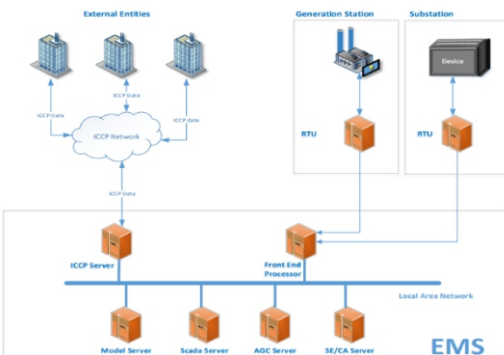

Figure 1 A simplified EMS configuration
The paper begins with a short summary of “What is an EMS and why is it important?” It defines and explains the components of an EMS system including but not limited to State Estimation (SE), Contingency Analysis (CA), and Inter Control Center Protocol (ICCP). Figures 1 and 2 provide illustrations showing a simplified EMS configuration and the inter-dependencies among EMS applications.